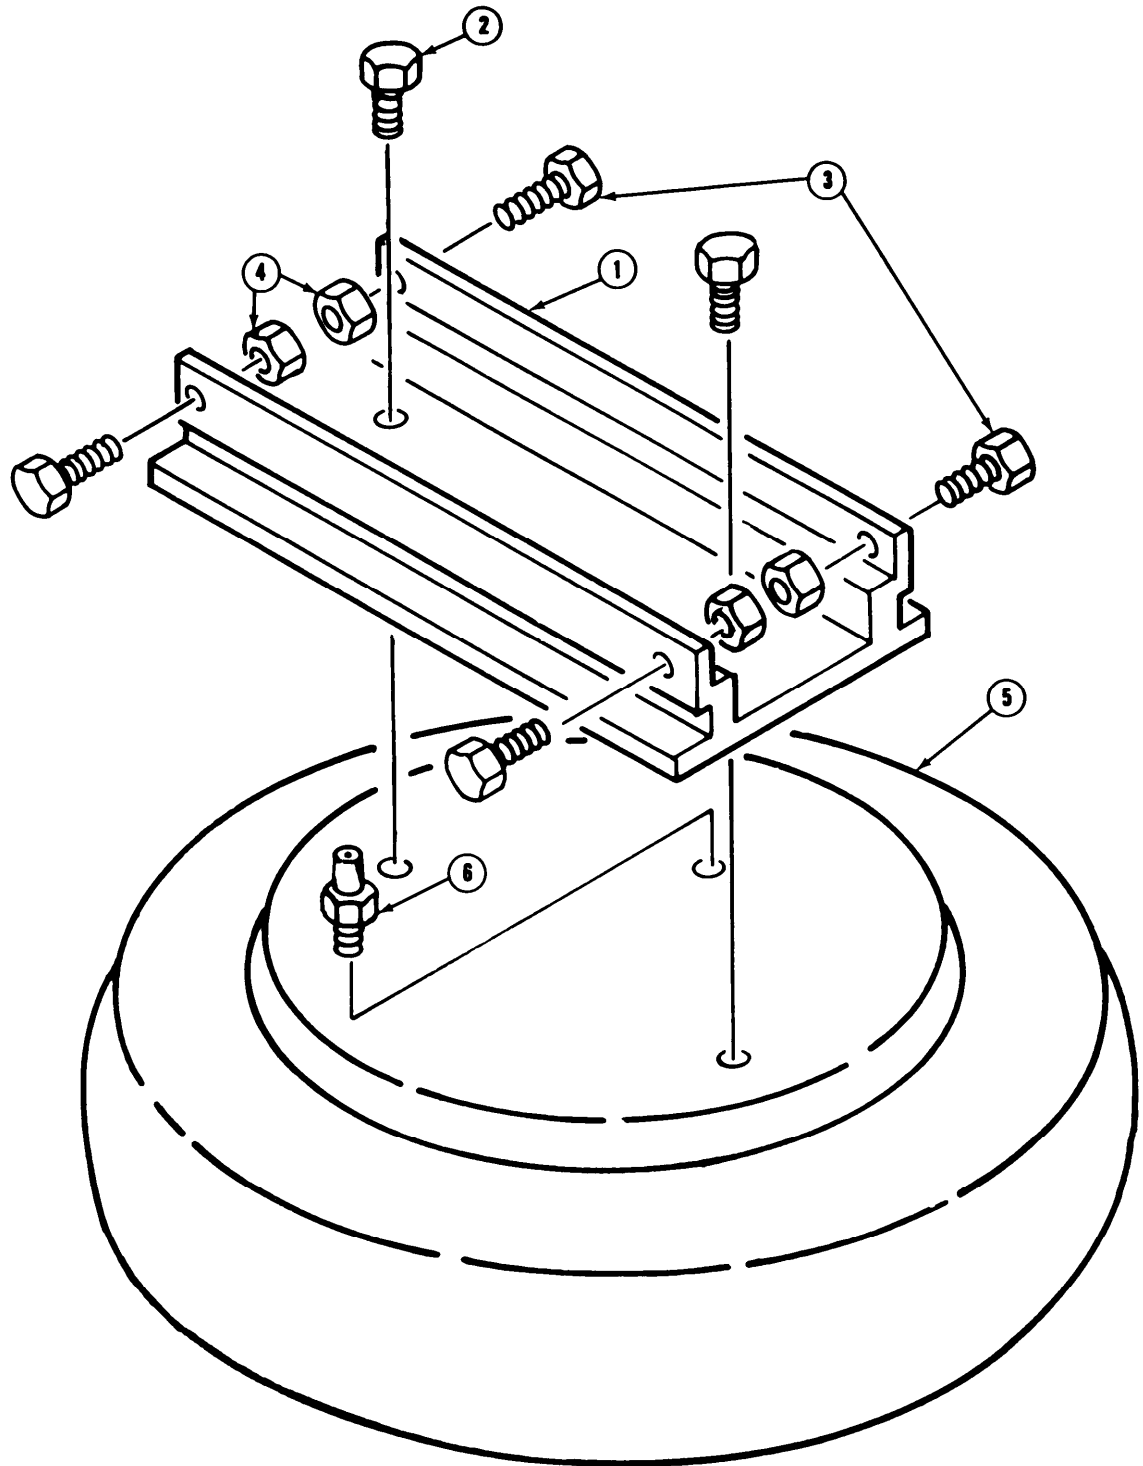

Figure 5-9. Air Spring Assembly
- c. Place washer (3) over the end of bolt (1).
- d. Thread locknut (4) onto the end of bolt (1). Tighten by hand.
- e. Use a 1/2 inch socket with ratchet on bolt head (1) and a 1/2 inch box wrench on locknut (4) to tighten the assembly securely.
5.5.8 Air Spring Assembly (Fig. 5-9)